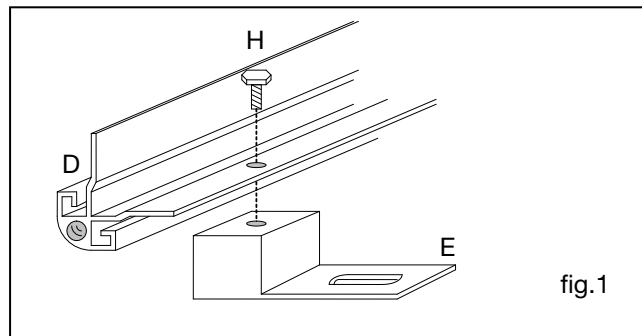

fig.1
1. Fix the four mounting feet (E) to two of the support arms (D) using the M6 bolts (J). The feet are reversible, allowing the floor fixings to be located inside or outside the guard. (fig.1)